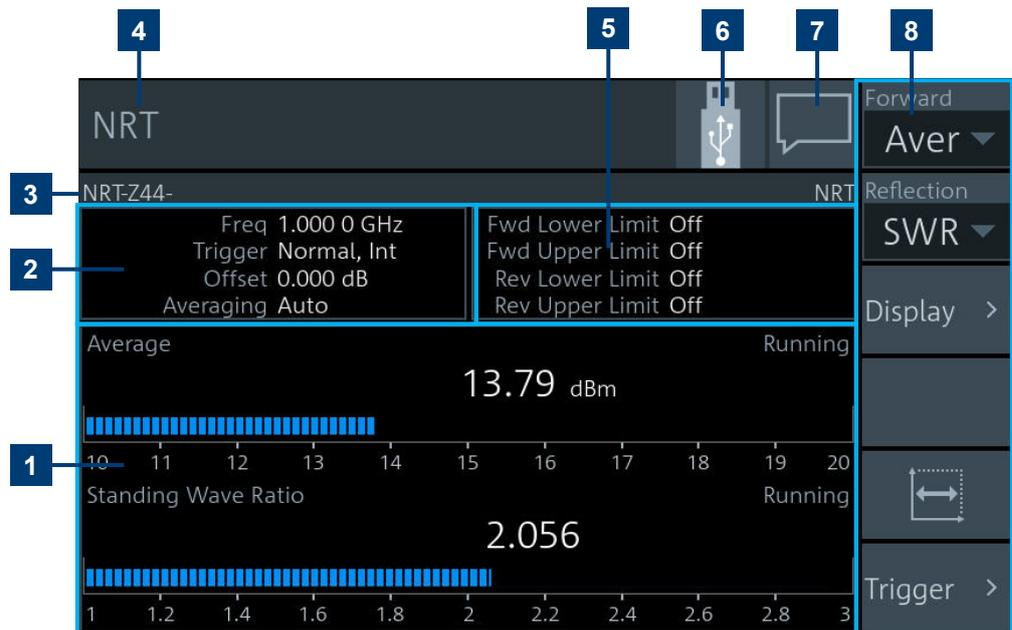

Figure 4-1: Main measurement dialog
- ▶ Select the area **1** in Figure 4-1.
- ▶ Select the area **2** in Figure 4-1.
- ▶ Select the area **5** in Figure 4-1.
- ▶ Select an element in the area **8** in Figure 4-1.
See Figure 4-1.